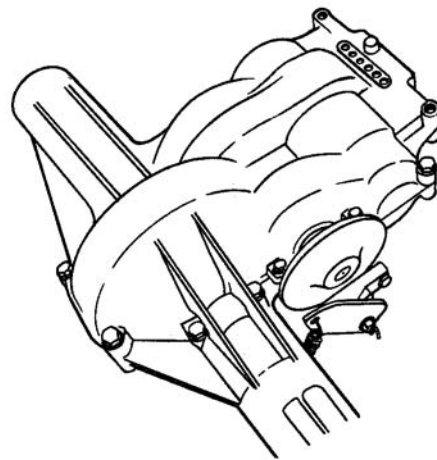

Figure 5-60. Securing Housing Halves Together
8. Install shift forks. Secure transmission housing halves together with 1/4-20 screws. See Figure 5-60.